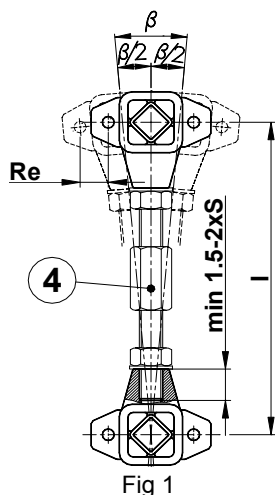

Fig 1
We recommend that you follow the diagram of figure 1 in order to make a suspension with the BT-F elements. This system focuses on the use of a link unit (4) with opposite threaded ends (right-hand and left-hand) obtained by drawing an hexagonal bar. By assembling one BT-F and one BT-F S for each suspension, with a monkey spanner you can level the chute where the material is being conveyed.